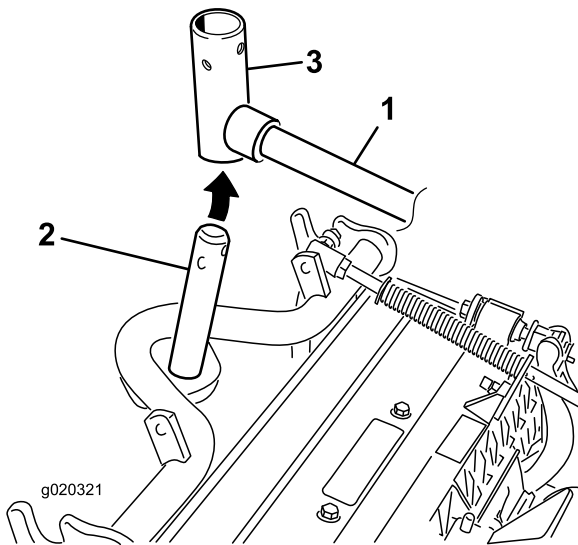

Figure 7
8. For the front cutting units, slide a cutting unit under the lift arm while inserting the carrier frame shaft up into the lift arm pivot yoke (Figure 7).
- B. Insert the lift arm yoke onto the carrier frame shaft (Figure 7).